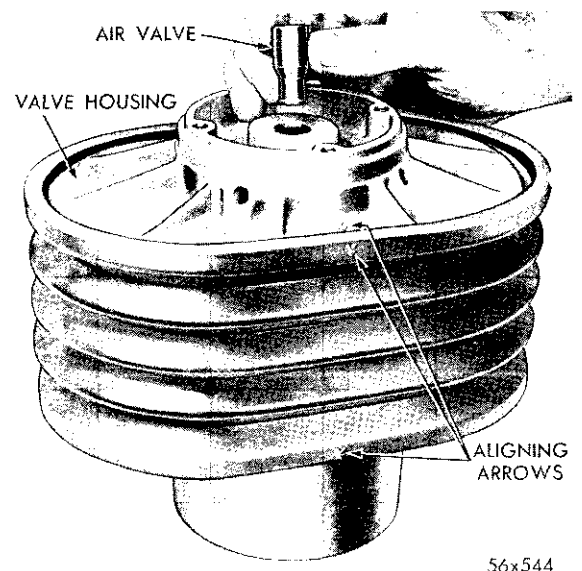

Fig. 37—Installing the Air Valve
(13) With the assembly in the holding fixture, lightly coat the outer surface of the air valve with silicone grease (do not use any other kind of grease), and insert (small end first) into the bore of housing (Fig. 37).
(14) Use finger pressure to test for free move-